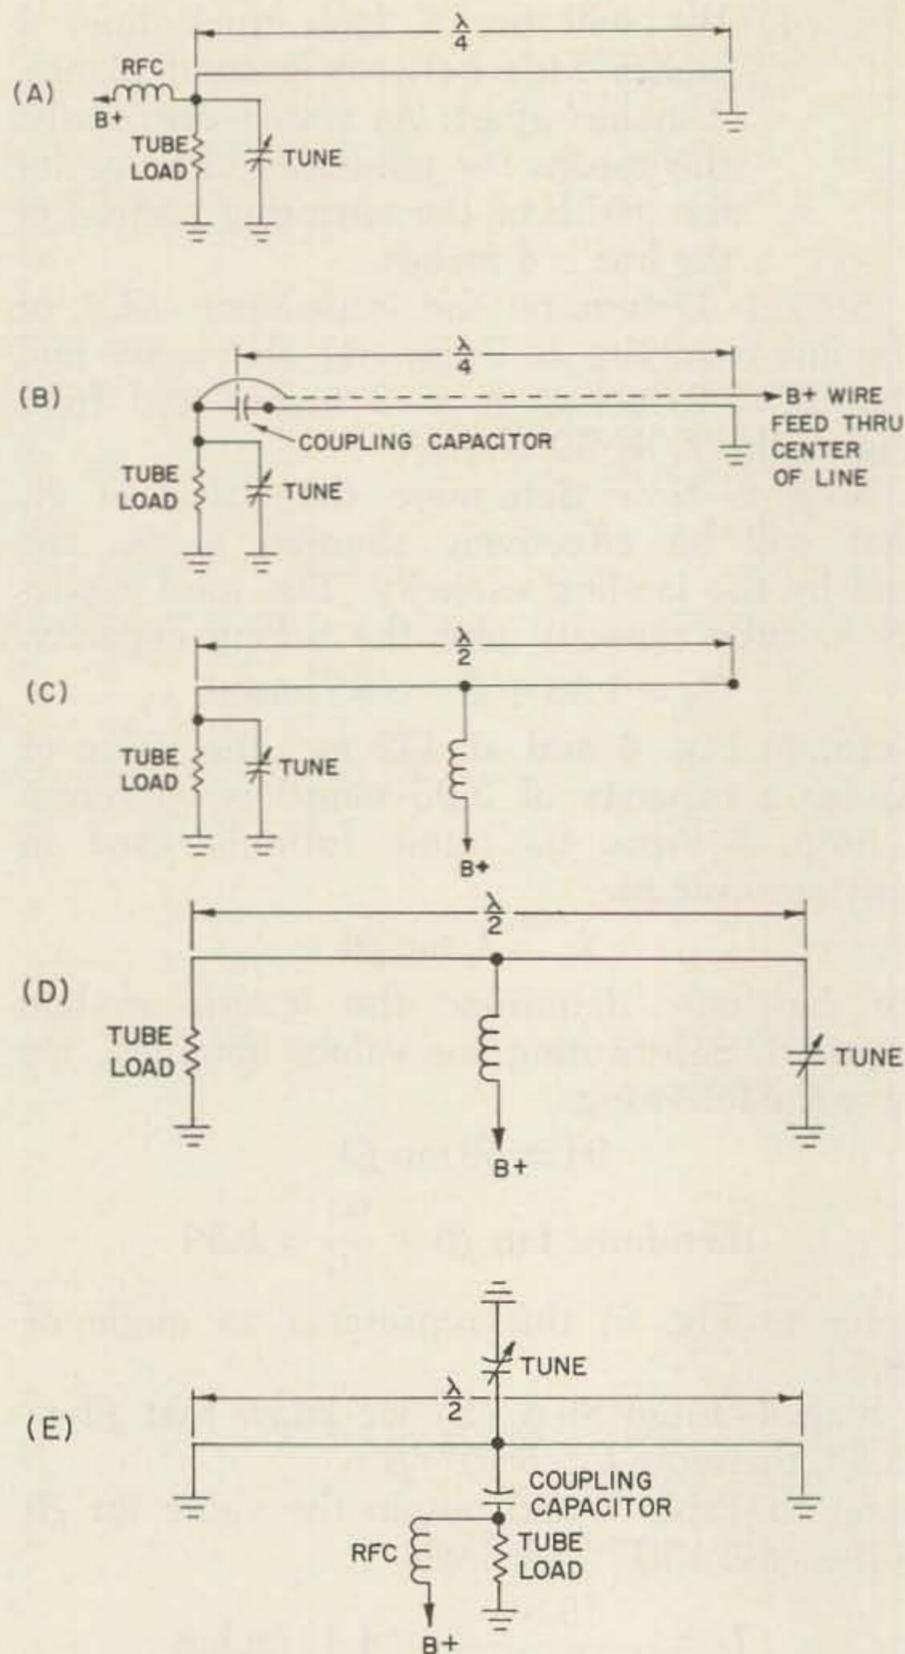

Fig. 11. Various tank configurations.
3.19 inches plus 4.4 inches or 7.59 inches long. The tube capacity will be 1.5 mmfd and the maximum tuning capacity will be 4 mmfd. This is an advantage since all the capacity does not have to be at one end of the line. The tuning capacitor can be at one end supporting the line and the tube capacity can be at the other end. The net effect is the same as if it were all at one end and the other end was left free. Fig. 11 provides additional data on possible line arrangements.
Fig. 11 shows various configurations of line wave lengths and some of the possible feed systems that can be used.